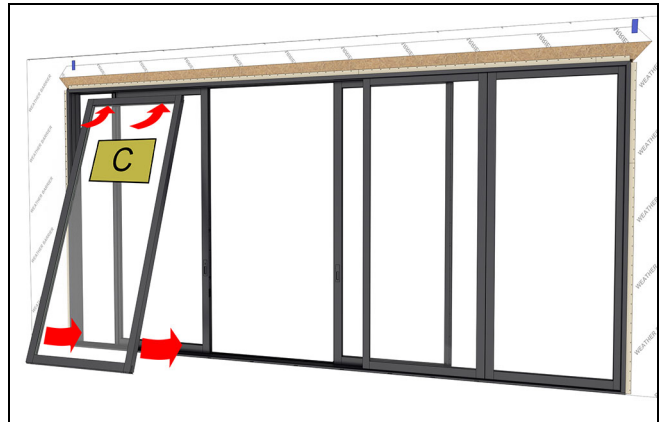
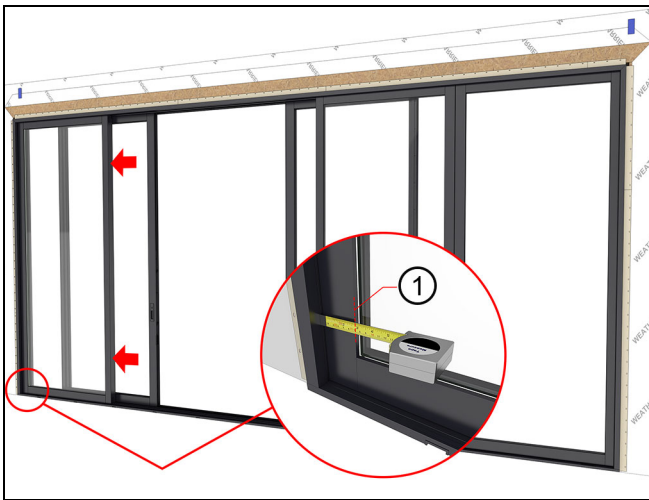

Figure 141
Figure 142
12. Install the (C-L) stationary panel onto the exterior track, slide the panel tight against the stationary jamb. The measurement from the inside of the exterior frame to the edge of the daylight opening should be 2 5/8" when the panel is fully seated inside the jamb. See Figure 141 and Figure 142.